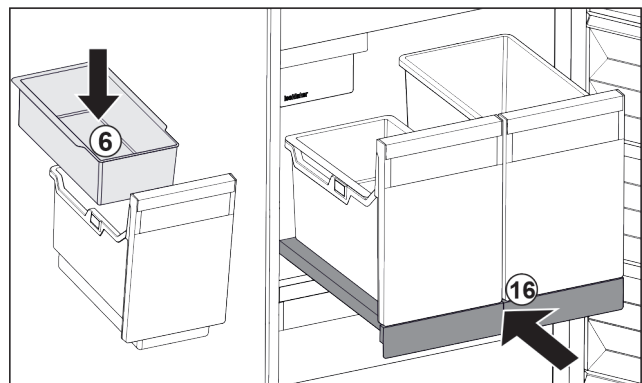

Fig. 176
- ▶ Insert hang-on tray Fig. 176 (6) for ice cubes.
- ▶ Slide in the pull-out board with (IceTower) container. Fig. 176 (16)